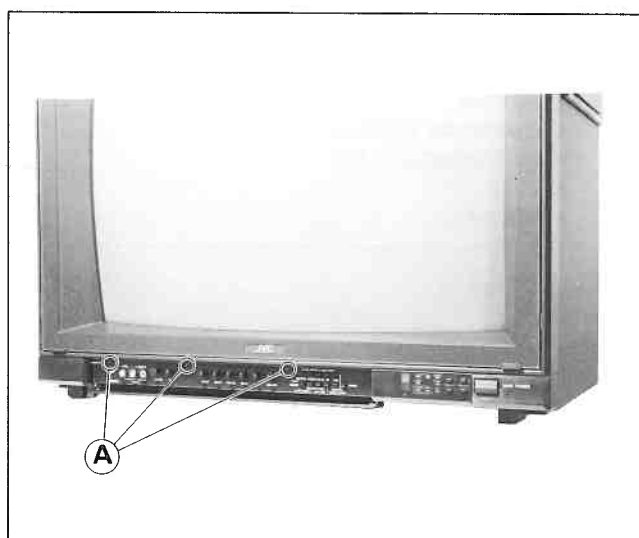

Fig. 5-2
1. Unscrew the three screws (A) shown in Fig. 5-2.